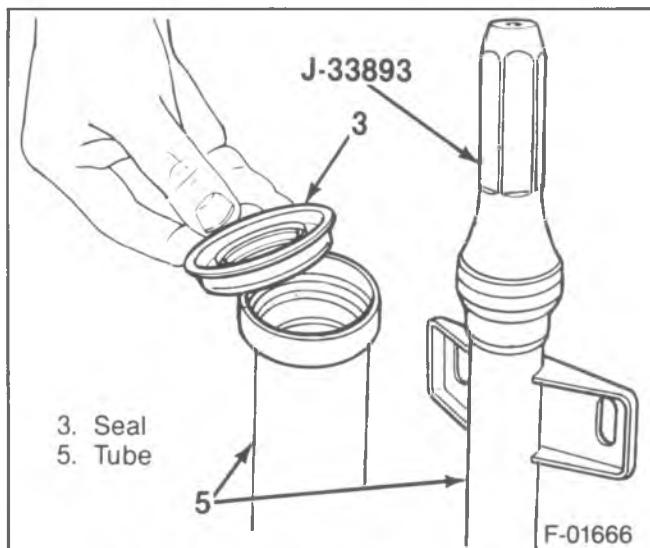

Figure 85—Installing the Shaft Seal
- Bolt (18) to 8 N·m (71 ft. lbs.).
22. Seal (3) into the cover (57).
23. Cover (57).
24. Bolts (58), torque to 25 N·m (18 ft. lbs.).
25. Deflector (2) and shaft (59).
26. Bearing (4) into the tube (5) using J-33844.
27. Seal (3) into the tube (5) using figure 85.